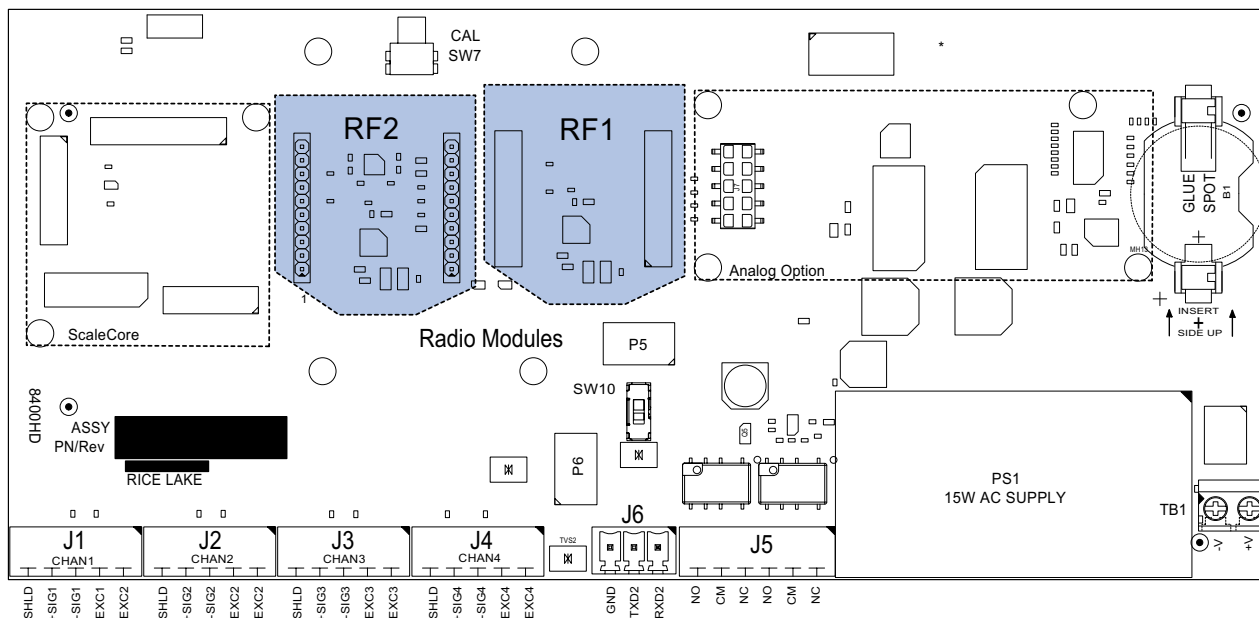

Figure 2-9. XBee Card Replacement Location
3. Install the indicator on the battery option tilt stand (Figure 2.9 on page 18).